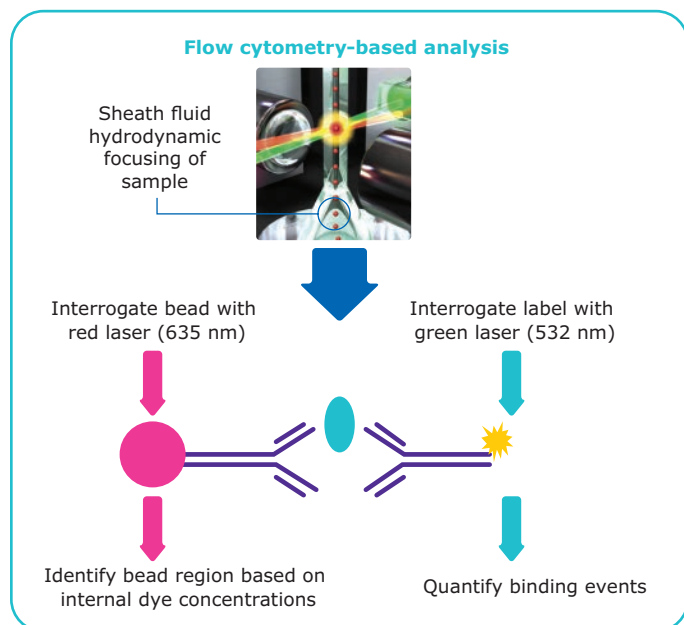

Figure 2. The fluorescence detection method for acquiring and analyzing multiplex assay data.
- › There are multiple Luminex® instruments available to acquire and analyze data. The detection method is illustrated in **Figure 2**.